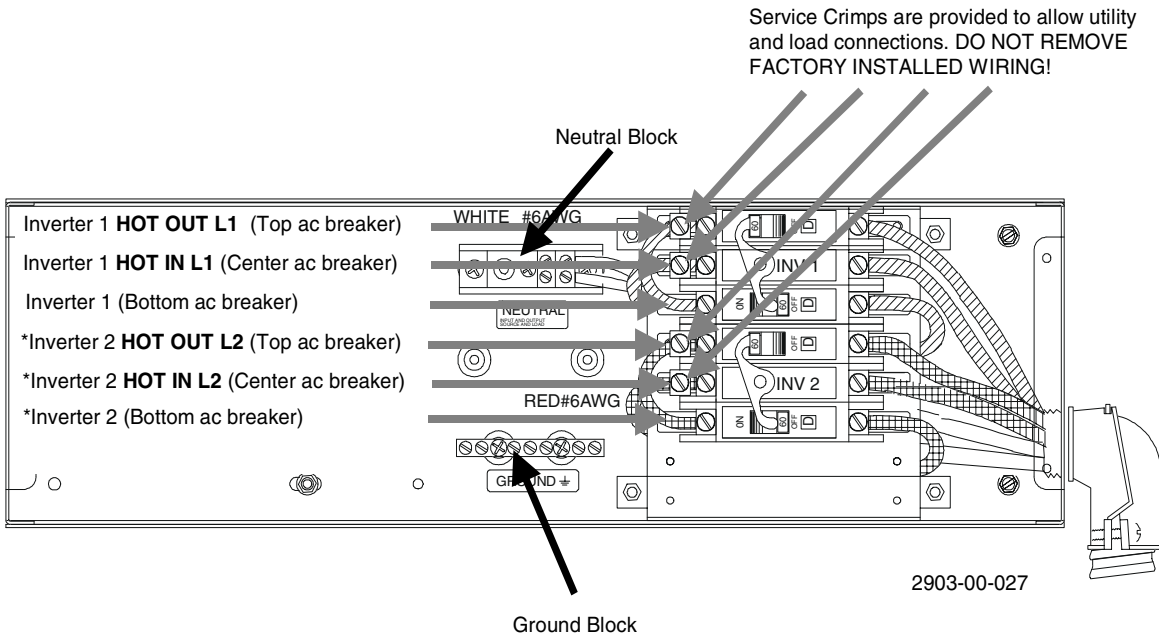

Figure 18
- Connect the L1 (Hot-black) wire to the INVERTER 1 HOT IN L1 (center ac breaker) as indicated in Figures 18 and 20.
- *Connect the L2 (Hot-red) wire to the INVERTER 2 HOT IN L2 (center ac breaker) as indicated in Figures 18 and 20.